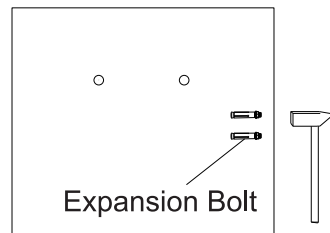
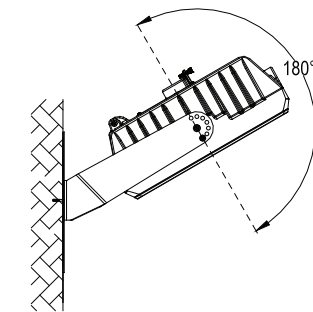

Figure 34
Figure 35
Step 2: Knock the expansion bolts into the wall.(Figure 34). Connect the fixture to the bracket and tighten the screws (Figure 35) .
Notice: Adjustable angle is 0-180°. (Figure 35)